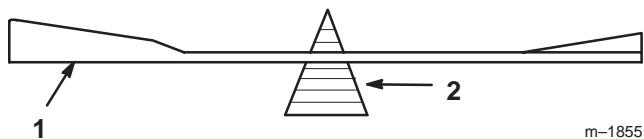

Figure 35
2. Check the balance of the blade by putting it on a blade balancer (Fig. 35). If the blade stays in a horizontal position, the blade is balanced and can be used. If the blade is not balanced, file some metal off of the back side of the blade. Repeat this procedure until the blade is balanced.